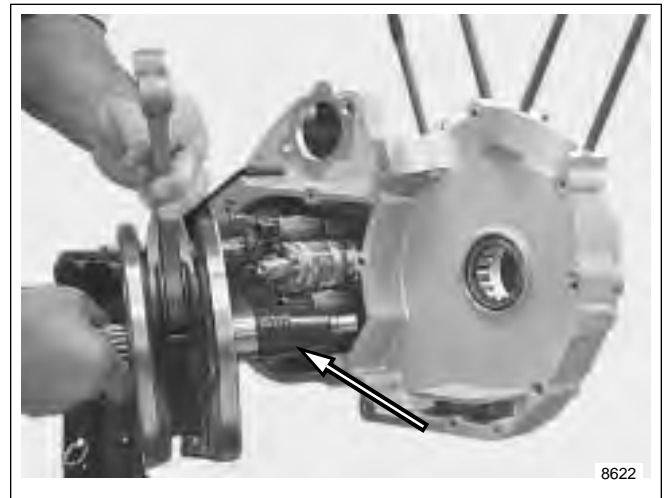

Figure 3-154. Installing Flywheel Assembly with CRANKSHAFT GUIDE (Part No. HD-42326)
4. See Figure 3-154. Attach left crankcase half to engine stand.